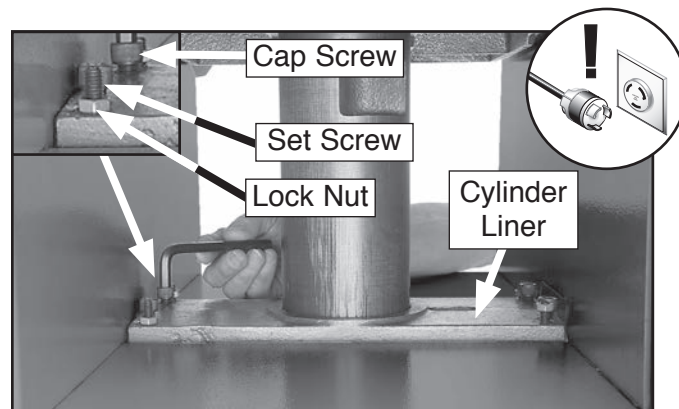

Figure 69. Adjusting table parallelism.
3. Loosen (4) cap screws on cylinder liner, as shown in **Figure 69**.
- If table is not parallel to cutterhead side-to-side (see **Figure 69**), loosen (2) lock nuts on right or left side of cylinder liner. Adjust set screws to raise or lower table so it is parallel to cutterhead.
- If table is not parallel to cutterhead front-to-back (see **Figure 69**), loosen (2) lock nuts at front or back of cylinder liner. Adjust set screws to raise or lower front or back of table so it is parallel to cutterhead.
4. Tighten (4) cap screws on cylinder liner.